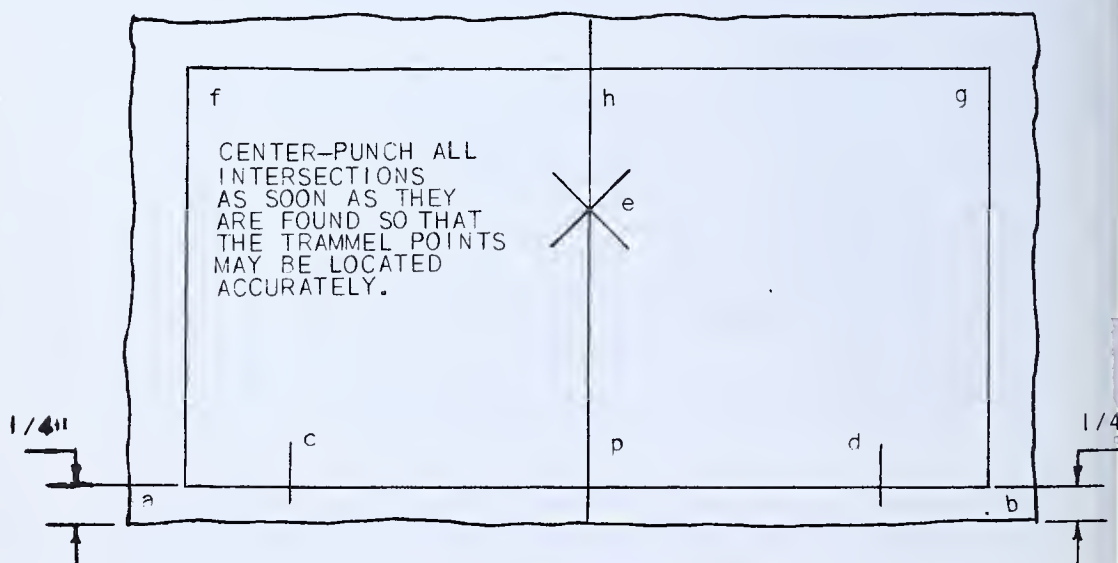

FIG. 259 — *Laying Out a Plate*
plate are always understood to be square with the sides when there is no angle dimension given. The rough plate is shown in Fig. 259. The letters in the figure are for reference only and are not found on shop blueprints. Follow the steps given in the procedure, and refer to the letters in the figure to understand the layout procedure clearly.
2. From the front edge of the plate, measure back  $\frac{1}{4}$ " as shown in Fig. 259 at *a* and *b*, and mark with soapstone.
2. How is the location for the center line  $h-p$  found on working line  $a-b$ , Fig. 259?
3. What distance apart should the trammel points be set to line  $d$  on line  $a-b$ , Fig. 259?
4. What two centers are used to erect the perpendicular line  $h-p$  with line  $a-b$ , Fig. 259?
5. Why are the trammel points set farther apart when stepping off distances  $d-e$  and  $c-e$  than when stepping off distances  $p-e$  and  $p-d$ , Fig. 259?
6. Explain how the width of the plate is laid out in Fig. 259.
8. What part of the length of a blueprint dimension is used to obtain distance  $h-g$  or  $h-f$  in Fig. 259?
As soon as the correct length of the plate is found, make the layout as in Job Sheet No. 1, Fig. 259 — "*Laying Out a Plate*".
1. Square the rough plate and scribe center line. See Fig. 259, Job Sheet No. 1, Part VI.